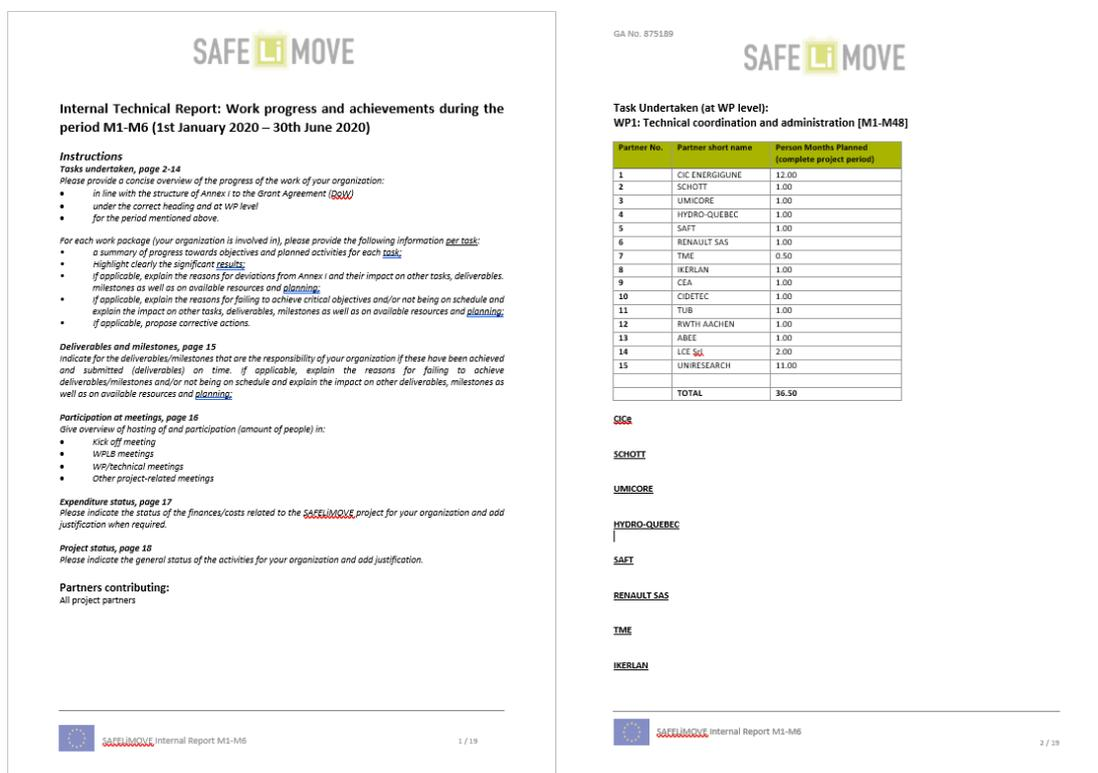

Figure 2 – SAFELiMOVE Internal report template, first two pages
- Template for internal technical reporting; is for the internal monitoring procedure/system of the activities, carried out within SAFELiMOVE each 6 months (Figure 2).